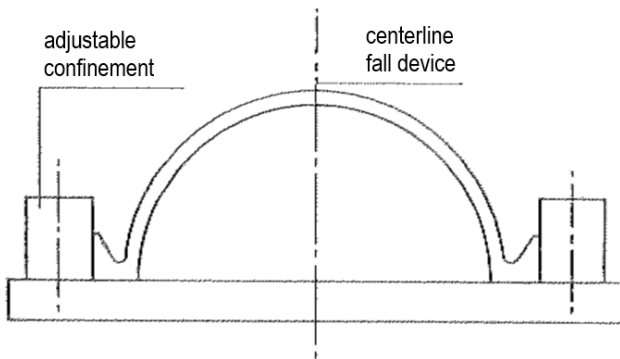

Figure 1 - Support of the saddle for the impact test
- The sides of the saddle should be supported as shown in figure 1 by means of adjustable side supports;